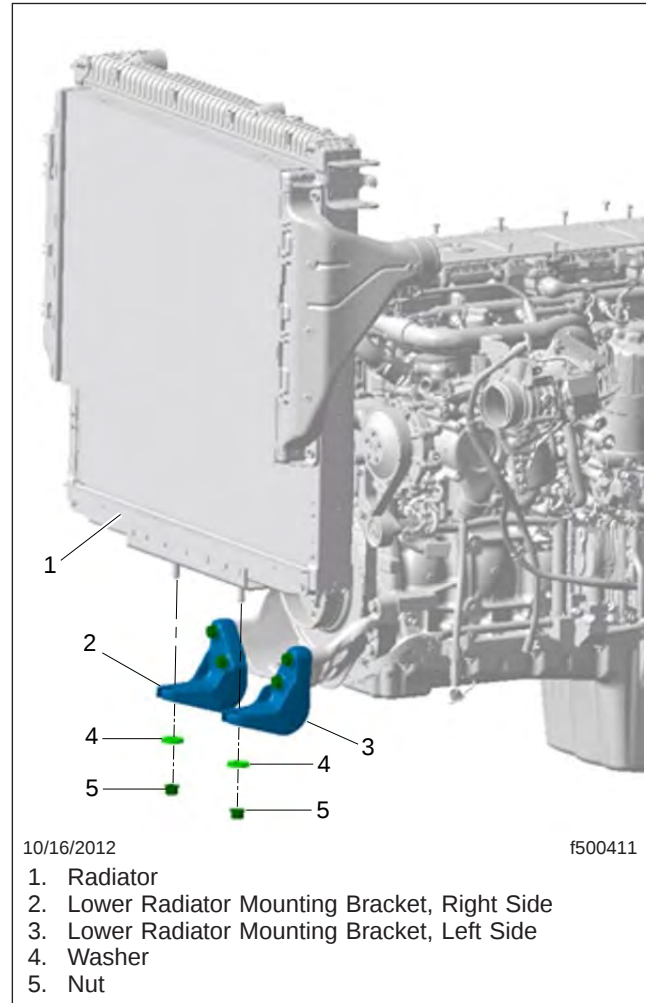

Fig. 12, Radiator Removal
18. Using an appropriate lifting device, remove the radiator assembly from vehicle. See Fig. 12.